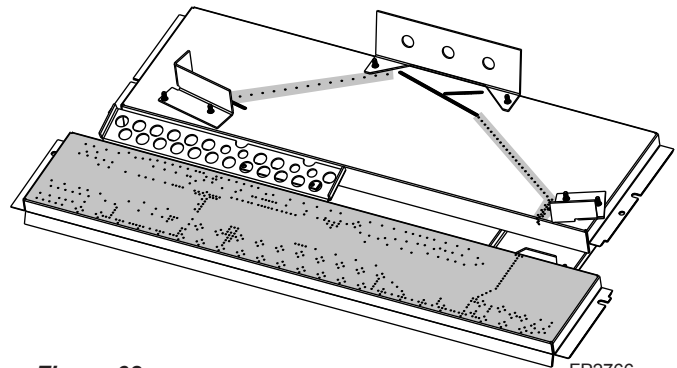

*Figure 61 -
2. Distribute one layer of rock wool to cover the burner. *Figure 61*
The flames from the pilot should be visually checked as soon as the heater is installed and periodically during normal operation. **The pilot flame must always be present when the fireplace is in operation.** Figure 61. The pilot flame has four distinct flames, one engulfing the thermopile, one engulfing the thermocouple or sensor, and the remaining reaching to the main burners.